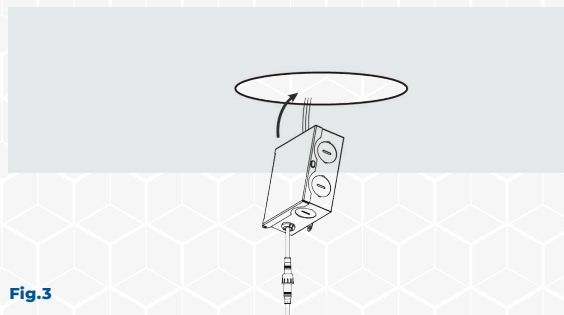

Fig.3
1. Connect the fixture to the hardwire box by inserting and twisting the male / female connectors. (see Fig.3 and Fig. 4)